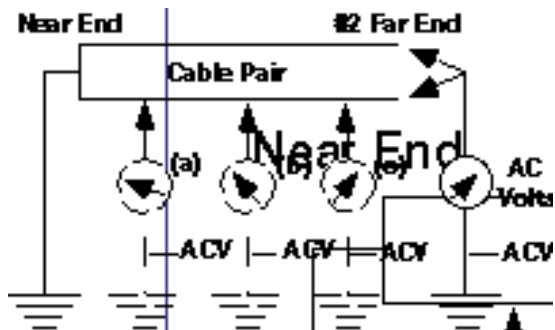

Figure 2: Measurements #2, 2a, 2b, 2c, etc.
(e) Connect the shorted pair to a good ground at the near end. Remove the short and ground connection at the far end. At the far end, measure and record the AC voltage to ground (See Figure 2). Both wires of the pair should measure the same voltage to ground. If they do not, look for physical trouble on the pair.
ground (either wire) at these locations and determine the electrical center of exposure. These are measurements 2a, 2b, 2c, etc. (See Figure 2). The electrical center is the point where the voltage to ground is equal to one half (1/2) the voltage to
**5.05** Normally, the best location for an INT for solving 50/60 Hz problems is at the electrical mid-point of the exposed section. The result will be that the voltage-to-ground on the pairs will be nearly equal on each side of the INT, with this voltage value being about one-half the overall unneutralized voltage. The electrical mid-point is determined by measurements #2 (Figure 2). When the overall 50/60 Hz voltage is reduced by a mid-point located INT, the harmonics (noise-to-ground or power influence) of 50/60 Hz that produce the audible circuit noise are usually reduced. This location reduces power influence at the subscriber while also assuring minimum voltage-to-ground at any point on the cable.